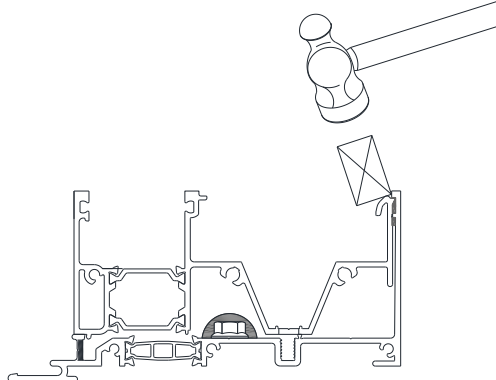

Figure 75: Optional Method to Snap Sill to Sill Receptor
- 20.6 Verify that the Sill has snapped into the Sill Receptor. If not, gentle pressure can be added to assist the engagement. *Figure 75* is an optional technique to connect the Sill to the Sill Receptor. Use care when applying pressure so as not to deform or break the Sill. Clean excess Sealant from the Sill Receptor.
20.13 Verify that the Sill has snapped into the Sill Receptor. If not, gentle pressure can be added to assist the engagement. *Figure 75* is an optional technique to connect the Sill to the Sill Receptor. Use care when applying pressure so as not to deform or break the Sill. Clean excess Sealant from the Sill Receptor.